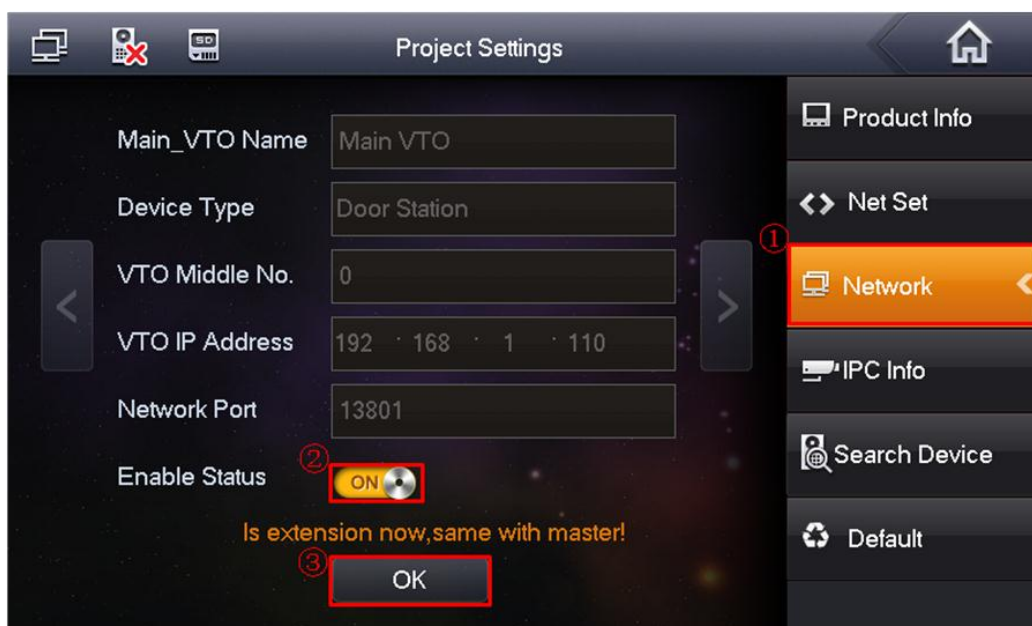

Figure 2-14
c) Click Network on the right pane and then enable current function. See Figure 2-14.